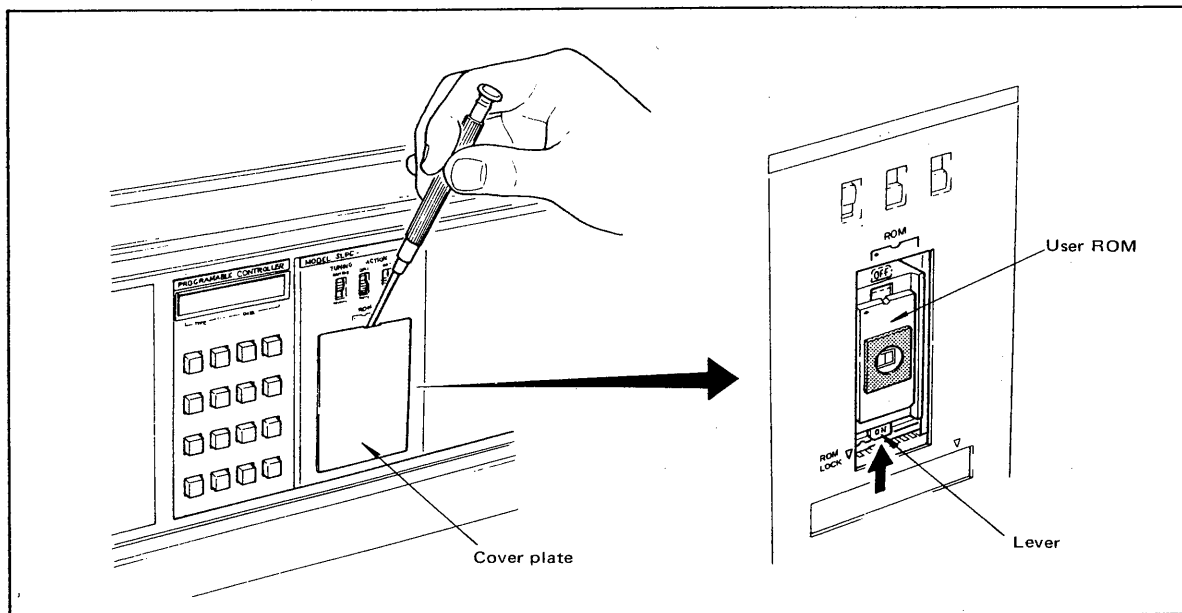

Figure 6-3-7. Removing Tuning Panel Cover Plate and ROM.
- b) Remove the tuning panel cover plate; the user ROM will be visible. (Figure 6-3-7).
- c) Lift the lever of the ROM socket, and set it to the OFF position using the tip of a screwdriver. (Figure 6-3-7).